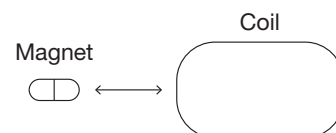

Figure 5.
11. Move the magnet to and from the coil, varying the speed. See Figure 5. Record your observations.